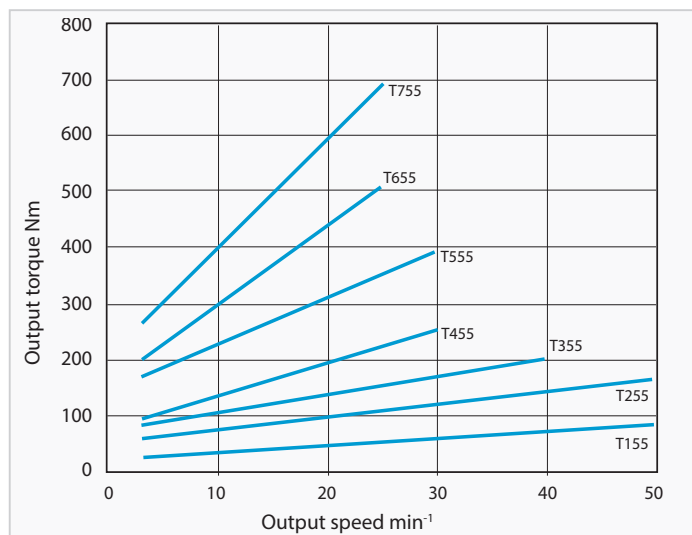

Fig. T-1 Input side no-load running torque
- Fig. T-1 shows the average no-load running torque after gearbox is run in (not factory-new condition).